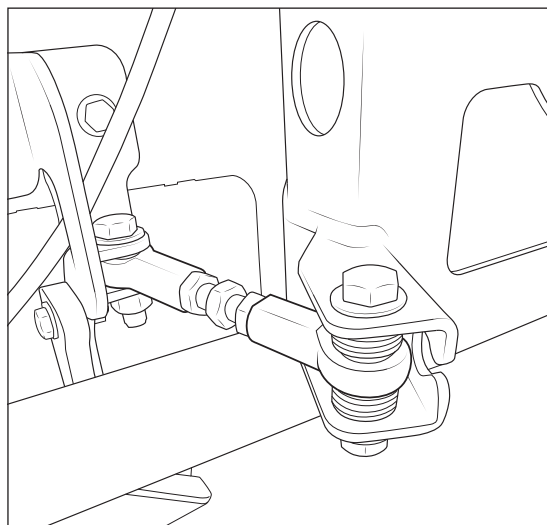

Figure 25
13. Install the Linkage to the Tire Carrier using the 1/2 x 2.5" bolt. This bolt **MUST** pass from the bottom upward with the nut on top. Use washers under the bolt head and nut. Use an even number of washers on both sides of the linkage (fig. 25). Tighten this nut and bolt to achieve a rattle free connection.